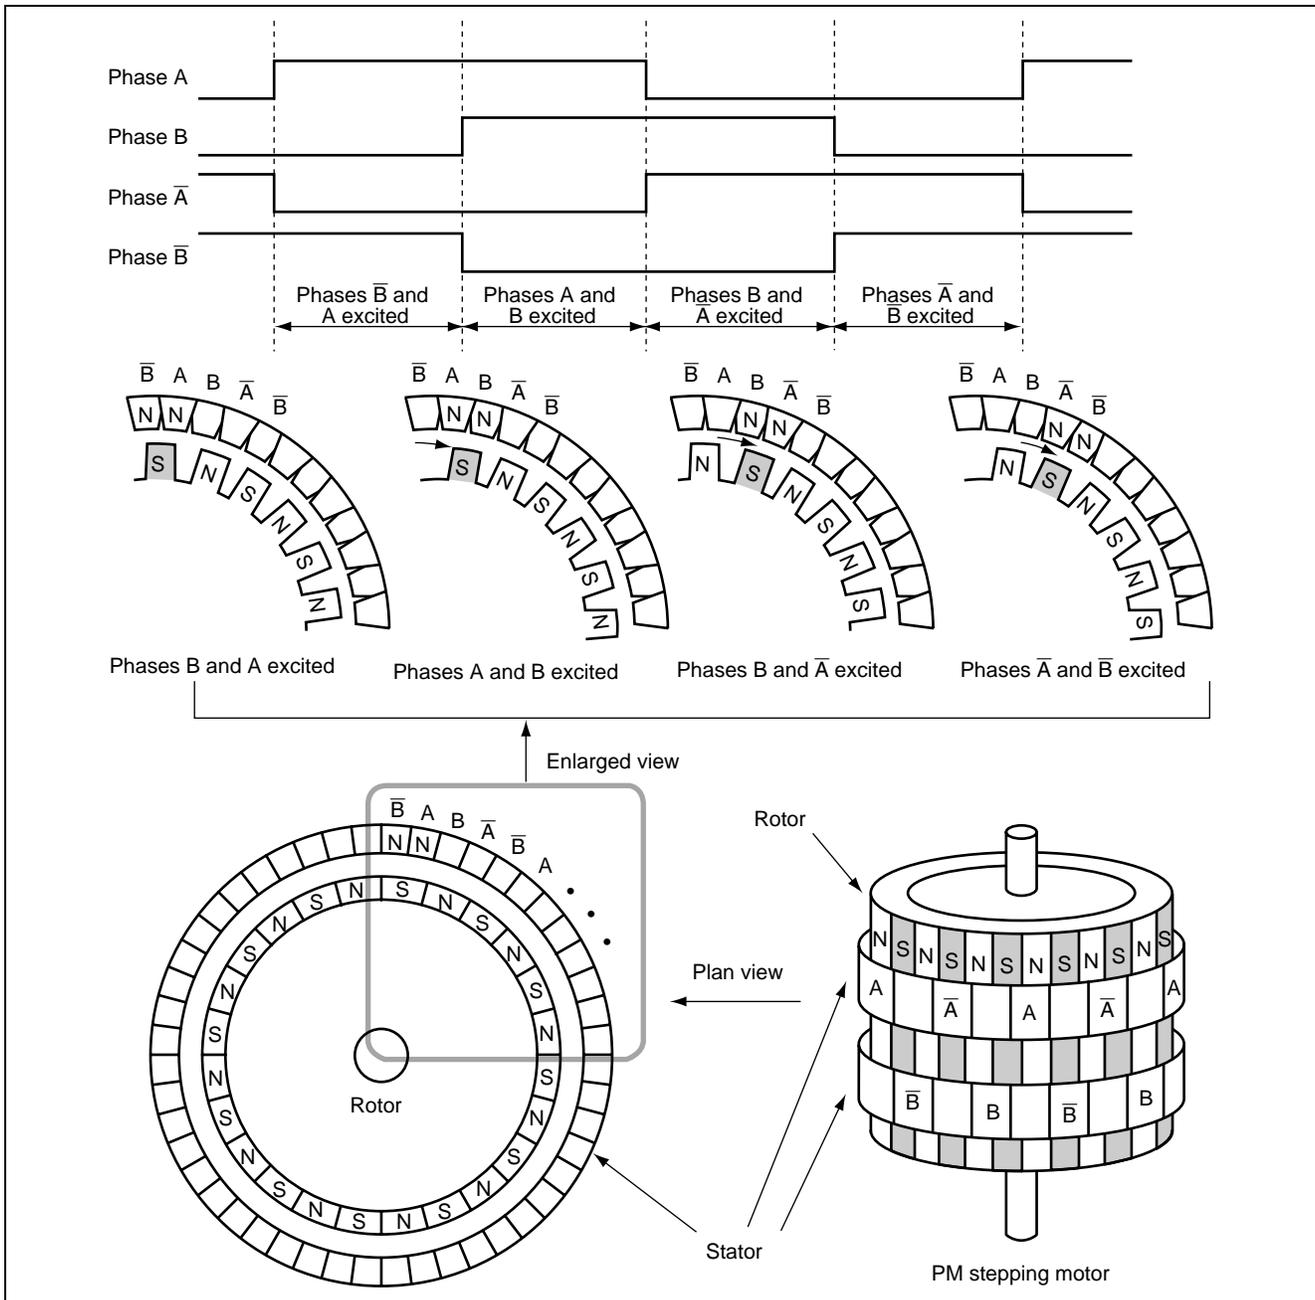

Figure 4 Example of Stepping Motor Operation
Figure 4 shows an example of two-phase stepping motor operation through two-phase excitation where the step angle of the motor is 7.5 degrees/step. The operation is summarized below.
- When the output pulse is high, the corresponding phase is excited, as shown in figure 4.